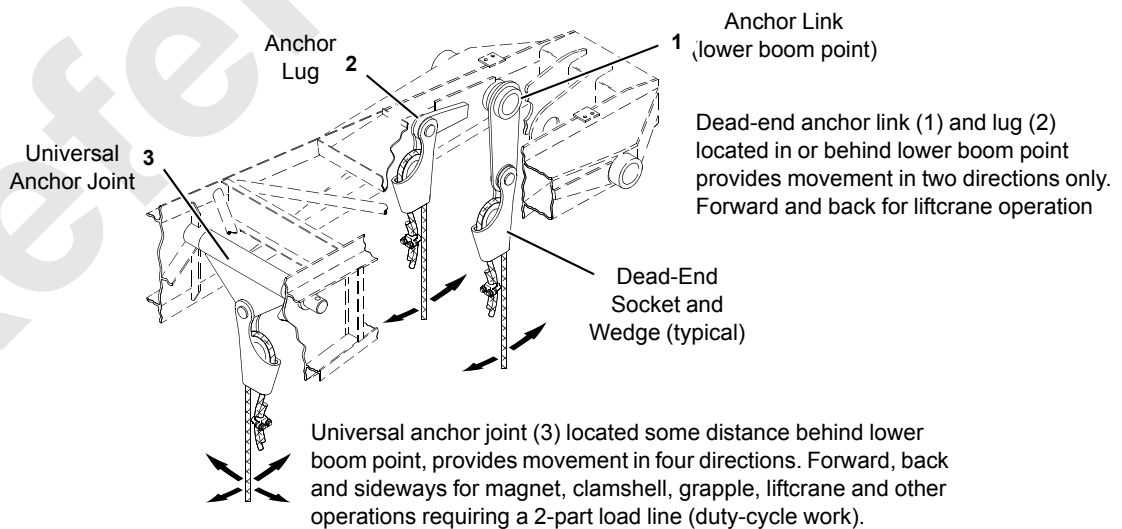

FIGURE 4-60
The dead-end socket and wedge can be anchored to any of the following locations in the boom and jib point, depending on the type of operation (see Figure 4-60):
**NOTE:** Movement of the dead-end socket on the link or lug (1 and 2 above) is in two directions only – forward and back (see Figure 4-60). Movement of the dead-end socket on the universal anchor joint (3 above) is in four directions – forward, back and sideways (see Figure 4-60).